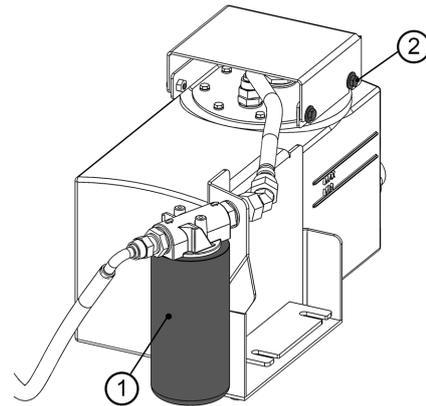

Figure 31 - Hydraulic Tank
3. Clear all debris from around the hydraulic tank (Figure 31).
4. Locate the oil filter cartridge and unscrew (Figure 31, Item 1). (A filter strap or similar tool may be required.)
7. Loosen the four M8 bolts (Figure 31, Item 2) and remove the hydraulic tank cover.
11. Refill with hydraulic oil VG32 to between the 'Min' and 'Max' lines on the tank (15 litres) (Figure 31).